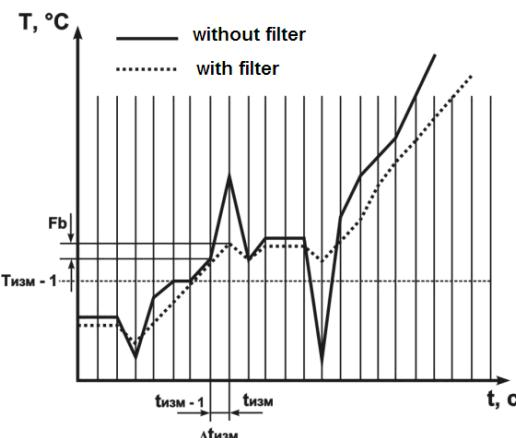

Figure 3.5
3.2.4.1 The digital filter band allows protecting the measurement route from single interference and is set in °C. If the measured value **Тизм** is different from the previous **Тизм-1** by the value larger than **Fb** parameter value, the device assigns to it a value equal to (**Тизм** + **Fb**) (Figure 3.5). Thus the characteristic is smoothed out.
As seen in Figure 3.5, smaller band width of the filter leads to slowing down the device reaction to temperature change. That is why in case of low interference level or during operation with discontinuous temperatures it is recommended to increase the parameter value or switch off the filter band action by setting the **Fb1** (**Fb2**, **Fb3**, **Fb4**) parameter value to 0.